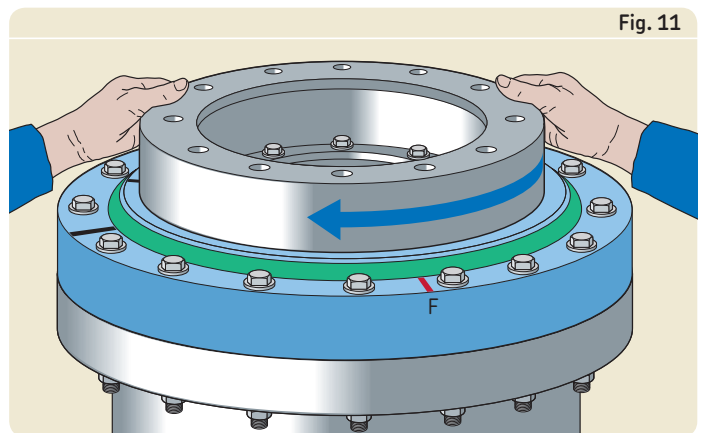

Fig. 11
- 14 Check the installation by rotating the assembled bearing arrangement. The torque should not show any excessive variation or “tight spots” during rotation (→ **fig. 11**).